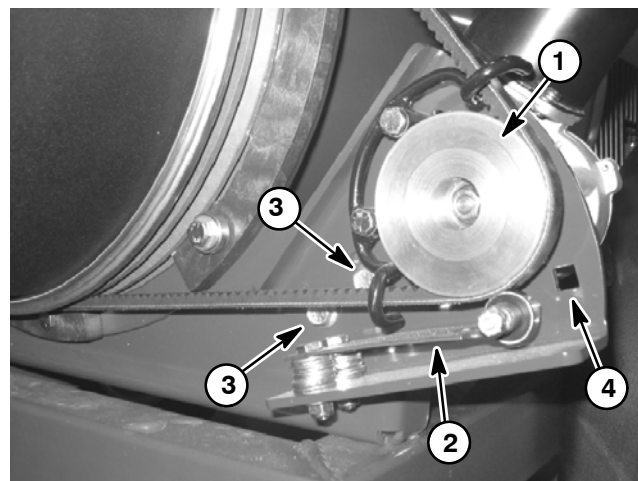

Figure 21
1. Position nozzle motor to bracket and secure with three (3) cap screws.
4. Place v-belt in nozzle pulley, route behind belt guard (item 13) and install belt on motor pulley.
5. With a 3/8 in. drive torque wrench, pivot the motor bracket from **200 to 230 in-lb (23 to 25 N-m)** to set v-belt tension (Fig. 21). **Do not over tension belt.** Hold bracket with the torque wrench and tighten two (2) flange head screws and flange nuts to secure belt adjustment and nozzle motor bracket.
7. Position leaf spring with bearing and flat washers (item 5) to bracket. Make sure that five (5) washers are placed between spring and bracket at each mounting hole. The bearing on the leaf spring should be centered on the outside of the v-belt. Secure leaf spring to motor bracket with two (2) cap screws (item 21) and flange nuts (item 22).